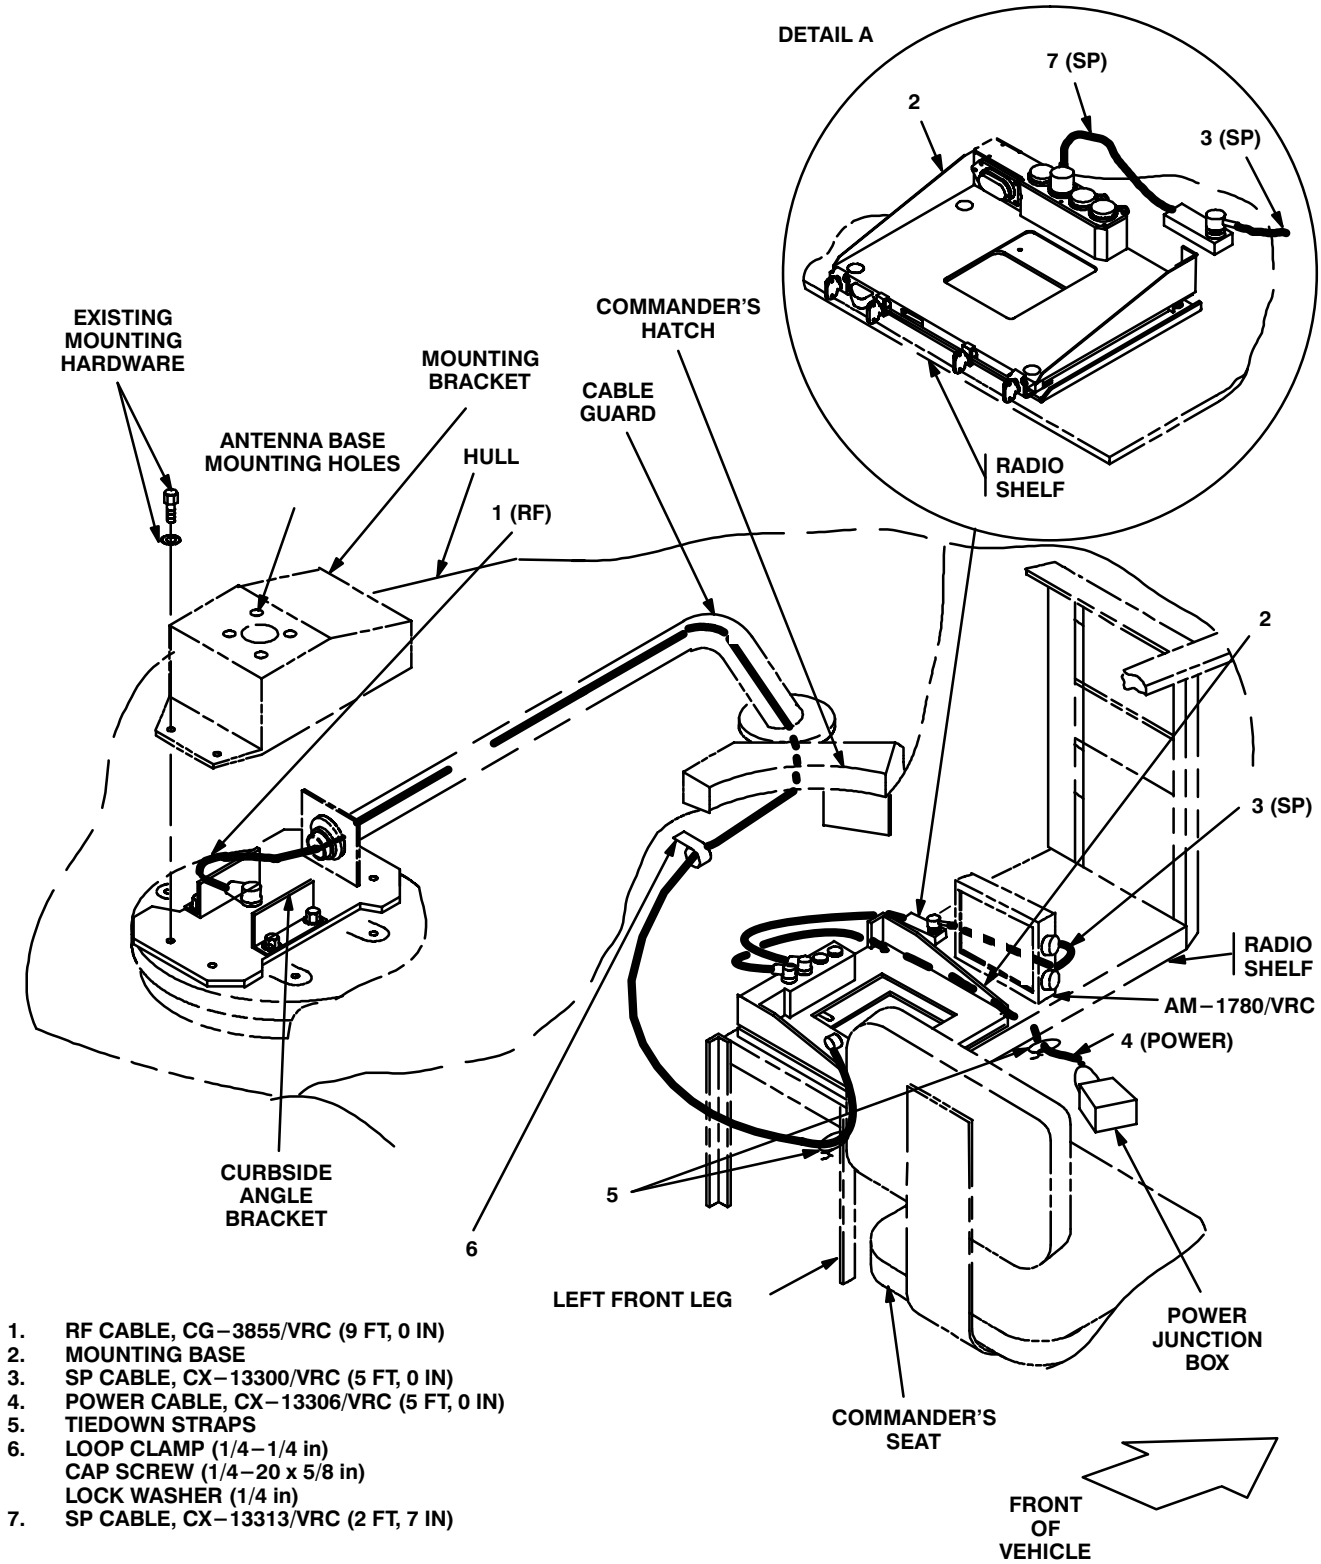

Figure 5-3. Cable Installation: Hull Roof and Interior
c. Antenna base (5).	Place on top of existing mounting bracket; then align mounting holes.
d. Four cap screws (1), eight IET washers (2) and four nuts (3).	Install and tighten.	Tools: 9/16 in socket and 9/16 in open/box wrench.
e. RF cable (4) connector P1.	Connect and secure to antenna base (5) connector J1.
f. Antenna base (5) and	Apply a bead of adhesive-sealant/silicon compound 360° around the seam between antenna base (5) and mounting bracket.
g. Existing mounting bracket and mounting hardware.	Reinstall. See Figure 5-3.